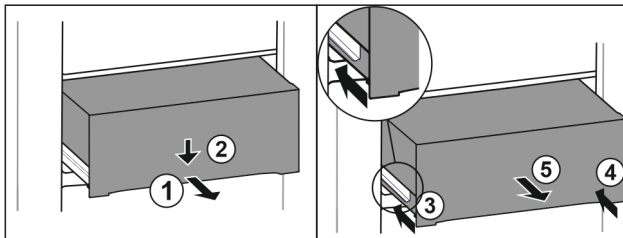

Fig. 112
- Pull out drawer half-way. Fig. 112 (1)
- Push the drawer down at the front. Fig. 112 (2)
- Push the left rail in by about 2 cm. Fig. 112 (3)
- Push the right rail in by about 2 cm. Fig. 112 (4)
- Remove drawer to the front. Fig. 112 (5)